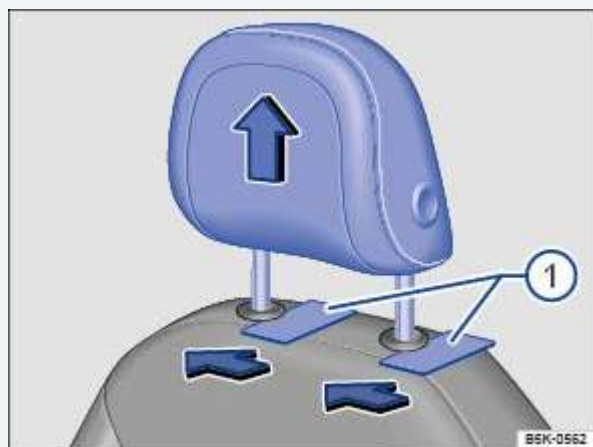

Fig. 46 Removing the front head restraints.
- Slide a flat object, such as a plastic credit card, underneath the right side of the cap (left side if sitting behind the head restraint) on the right-hand seat guide rod ⇒ Fig. 46① to unlock the head restraint.
- Push the head restraint down  $\Rightarrow$  Fig. 46.